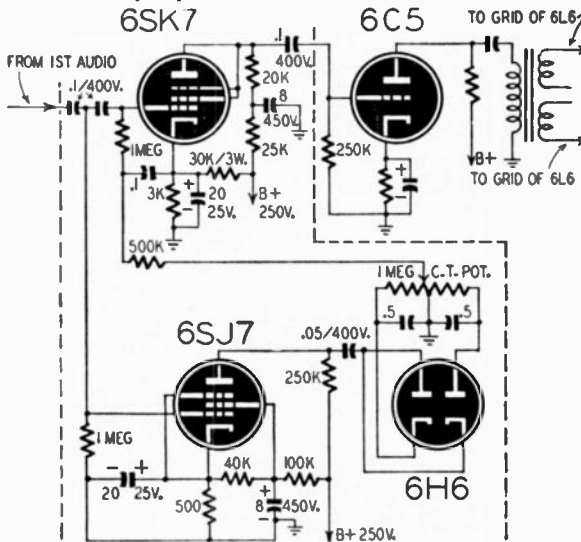

Fig. 317
A. Fig. 317 is a circuit showing how the unit may be added to the